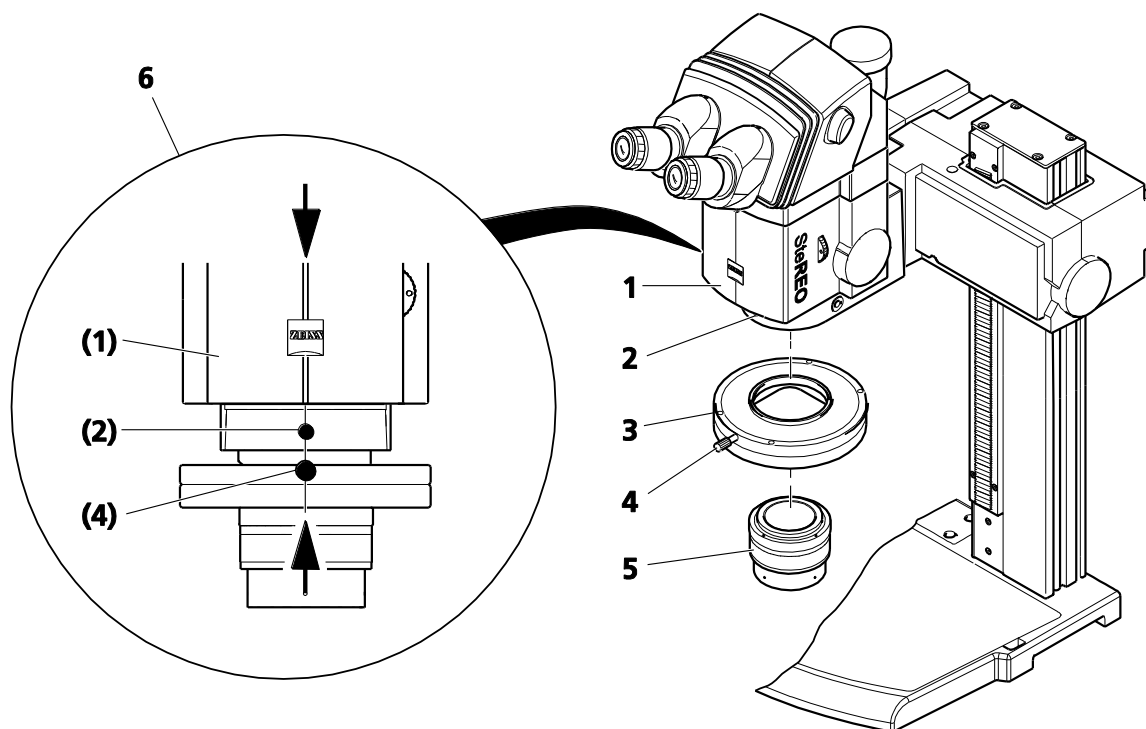

Fig. 36 Mounting the objective slider S/doc
- Intermediate phototube S, right, 3 pos. (435103-9000-000) and
- Unscrew the objective (Fig. 36/5) from the microscope body (Fig. 36/1). Attach the lens-protective cap.
- Hand-tighten the clamping screw (Fig. 36/4) onto the objective slider.
- Hold the objective slider (Fig. 36/3) with both hands and screw it into the microscope body (Fig. 36/1) as far as it will go.
- Screw the objective (Fig. 36/5) into the objective slider (Fig. 36/3) as far as it will go. Remove the lens protective cap again.
- Loosen the clamping screws (Fig. 36/2 and 4).
- Align the clamping screw (Fig. 36/4) of the objective slider and the joint of the microscope body (Fig. 36/1) with the clamping screw (Fig. 36/2) (Fig. 36/6).
- Hand-tighten the clamping screws (Fig. 36/2 and 4).